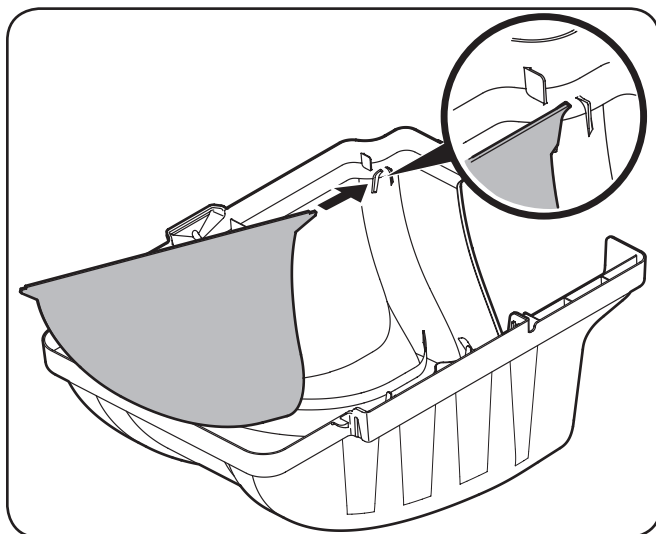
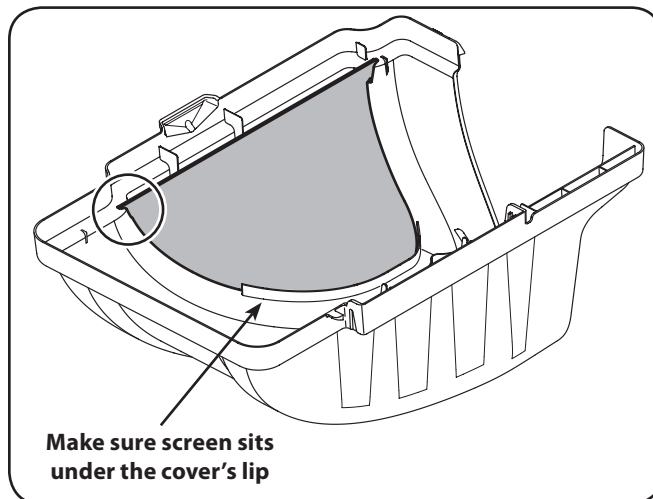

Figure 4-11
Figure 4-12
3. Install the bagger screen into the bagger cover by first inserting the end closest to the side with the cutout into the mounting hole, as in Figure 4-11. Make sure to feed the screen under the lip, as in Figure 4-12.
4. Clip in the other side by pushing the screen into the provided cutout. See Figure 4-12.